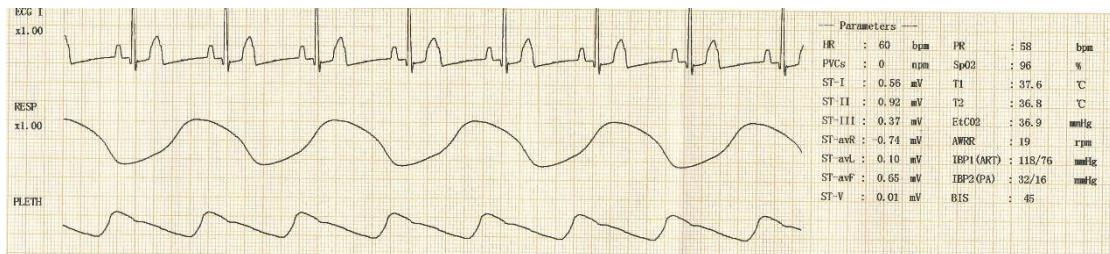

Figure 21-3: Alarm Event Printing Report
The printing content includes information such as patient name, patient ID, alarm time, heart rate (HR), blood oxygen (SpO2), pulse rate (PR), NIBP (systolic blood pressure (SYS)/diastolic blood pressure (DIA)), respiratory rate (Resp), temperature (Temp), ST segment, alarm type, and hospital name. Printing example is shown in Figure 21-3: